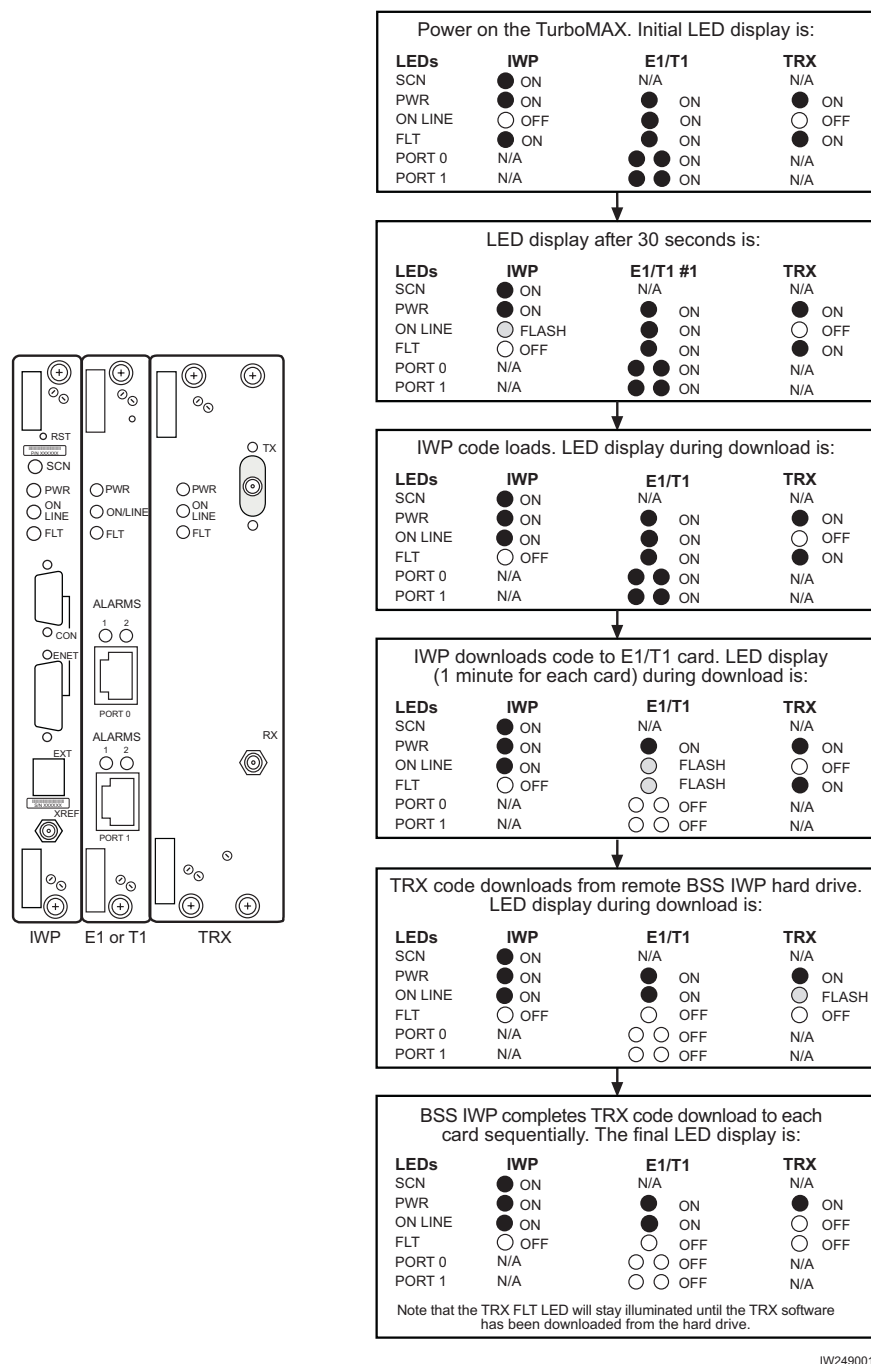

Figure 2. TurboMAX LED Sequence During the Boot Process
- 12) Monitor the Power On Self Test (POST) by watching the front-panel LED sequence to verify proper POST indications. Figure 2 shows the normal TurboMAX LED boot sequence. Note that the TRXs are tested sequentially.